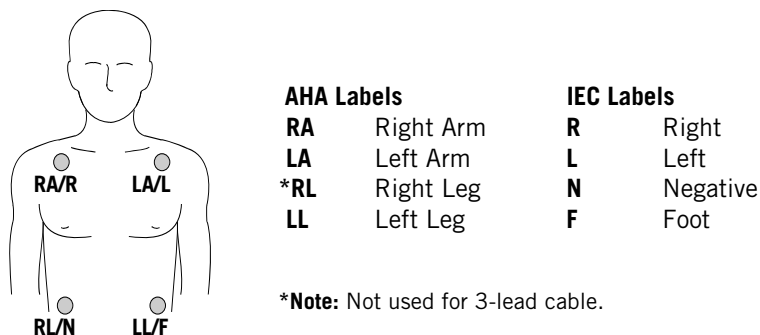

Figure 4-3 Limb Lead Electrode Placement
3. Identify the appropriate electrode sites on the patient as shown in Figure 4-3.